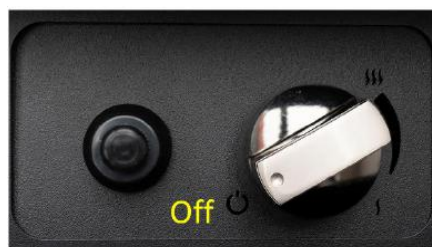

Fig. 12 – Turning the device off
- To achieve a higher flame turn the knob clockwise to “Hi” position. To achieve a lower flame turn the knob counter-clockwise to “Lo” position (Fig. 12).